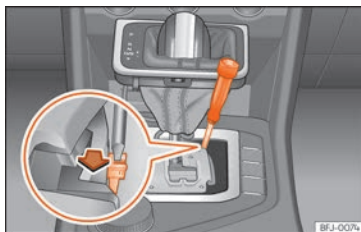

Fig. 165 Gear selector lever: manual release from the parking position.
- Using the flat part of a screwdriver, press the yellow tab sideways and keep it pressed down **Fig. 165**.